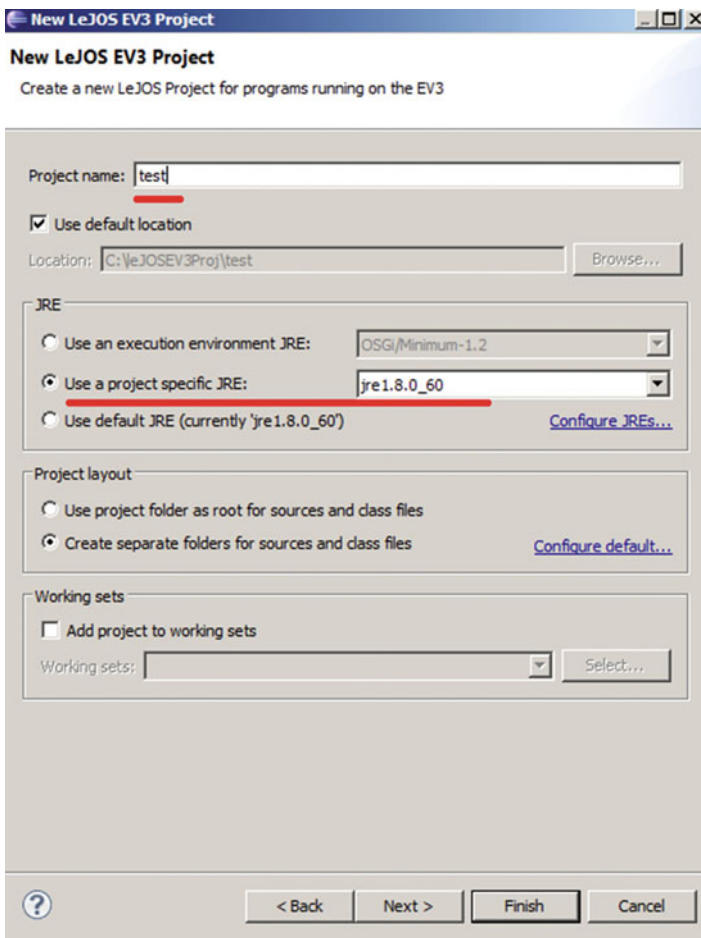

Figure 1-25. Create a new leJOS EV3 project
3. For the project name, enter `test` and then click `Finish`, as shown in Figure 1-25.